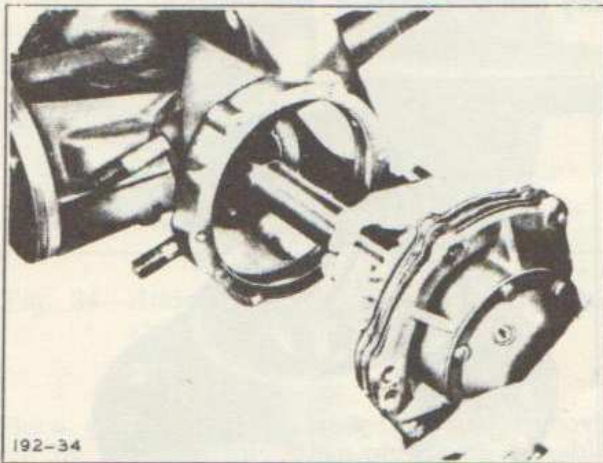

Fig. 27—Withdrawing Drive Shaft
In withdrawing the drive shaft (3), be careful that its splined end does not damage oil seal (5). (See Figure 27). Wire shim pack (6) together.